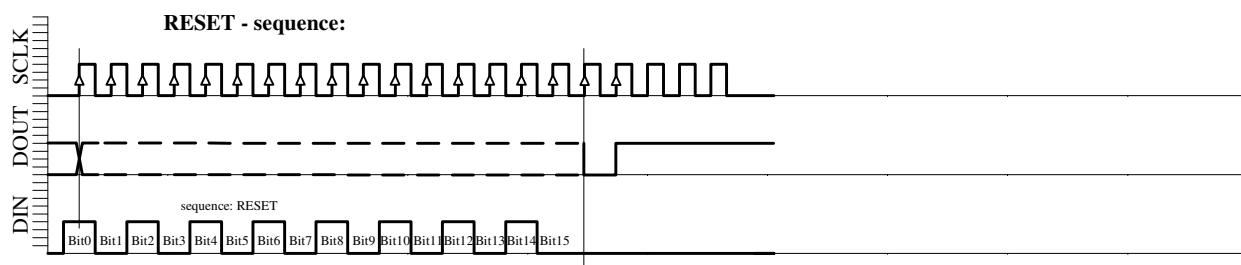

Fig. 6e: RESET sequence (21-Bit).
- RESET sequence (Figure 6e)
The RESET sequence is special as its unique pattern is recognised by the module in any state. By consequence it can be used to restart if synchronisation between the microcontroller and the MS5534C has been lost. This sequence is 21-Bit long. The DOUT signal might change during that sequence (see Fig. 6e). It is recommended to send the RESET sequence before first CONVERSION sequence to avoid hanging up the protocol permanently in case of electrical interference.